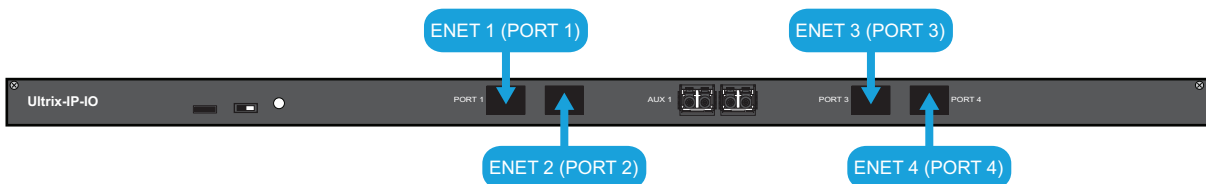
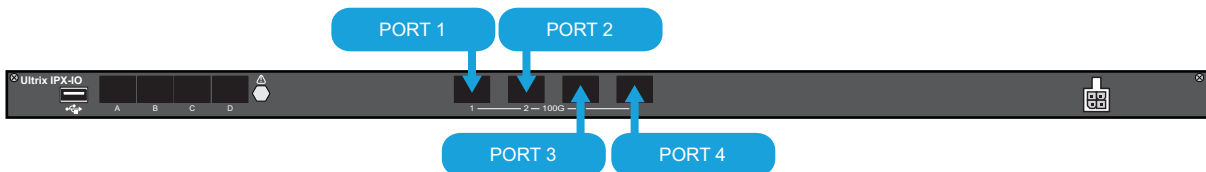

Figure 41 ULTRIX-IP-IO — Ports 1-4
Figure 42 ULTRIX-IPX-IO — Ports 1-4
3. Cable your port as required. (**Figure 41** or **Figure 42**)